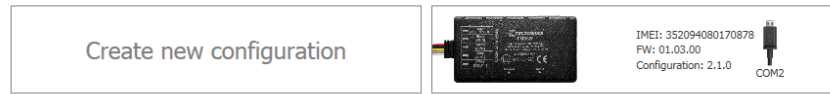

Figure 10 FMB920 configurator window when selecting the connection method
- 'Connect to device' (Figure 10) – connects device.